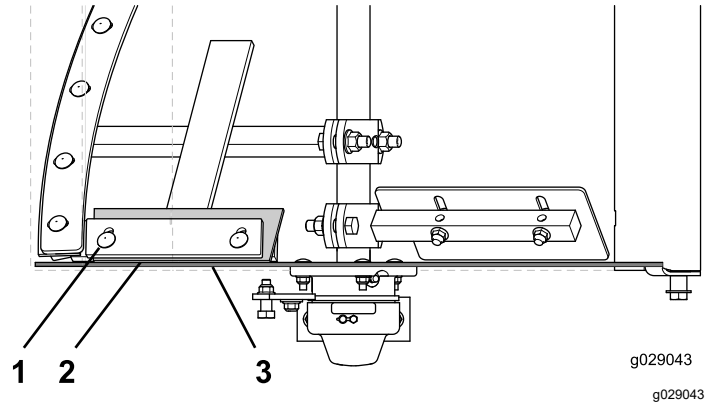

Figure 71
4. Loosen the carriage bolts and flanged locknuts that secure the paddle blade and wiper to the fixed paddle. (**Figure 71**)